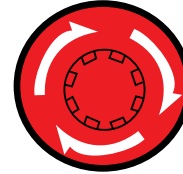

Figure 44. Emergency Stop Button
1. Push the **Emergency Stop Pushbutton Switch** (Figure 44).